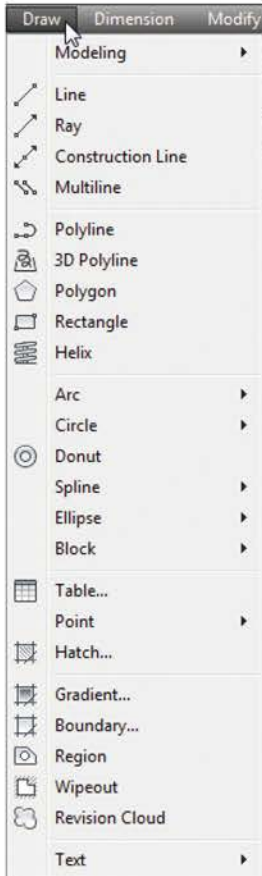

Fig. 4.2 The tool icons and names in the Draw toolbar
2. By *clicking* on a tool name in a drop-down menu. Fig. 4.2 shows the tool names and icons displayed in the **Draw** drop-down menu. It is necessary to first bring the menu bar to screen with a *click* on **Show Menu Bar** in the *left-click* menu of the **Quick Access** toolbar (Fig. 4.3) if the menu bar is not already on screen.